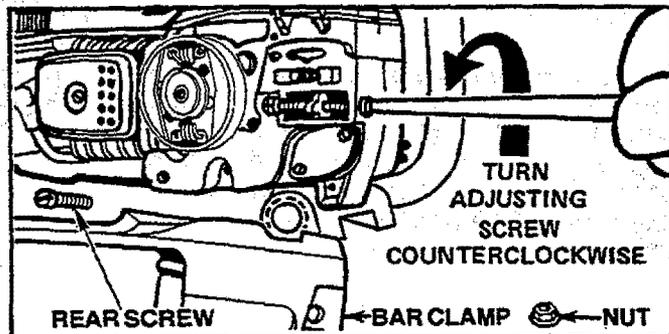

Figure 2
- Remove the following parts as shown in Figure 2, using the Bar Adjusting Tool provided with the unit.
- Turn the Adjusting Screw counterclockwise ← to move the Adjusting Pin almost as far as it will go to the rear. Figure 2.